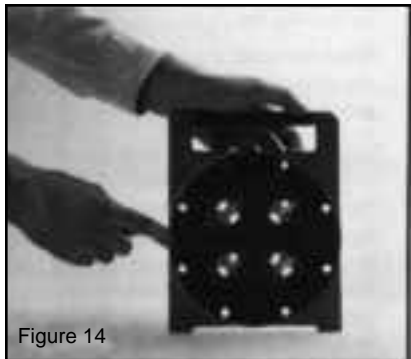

Figure 14
- f) Visually inspect the rubber gaskets on the filter cartridge plate for wear, cracks or tears (Figure 14).